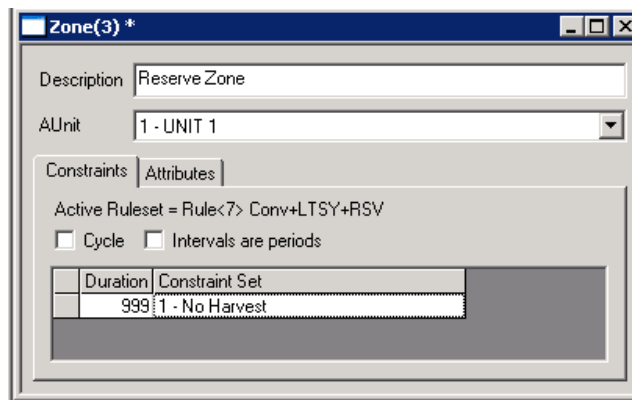

Figure 26: Adding a constraint onto a Zone
- 3.2.6 Click on *Duration* and then press *Ctrl + Down arrow*. This will create a new row and a drop down list of *Csets* (including the *No Harvest* constraint that was created in step 3.1) should appear (Figure 26).